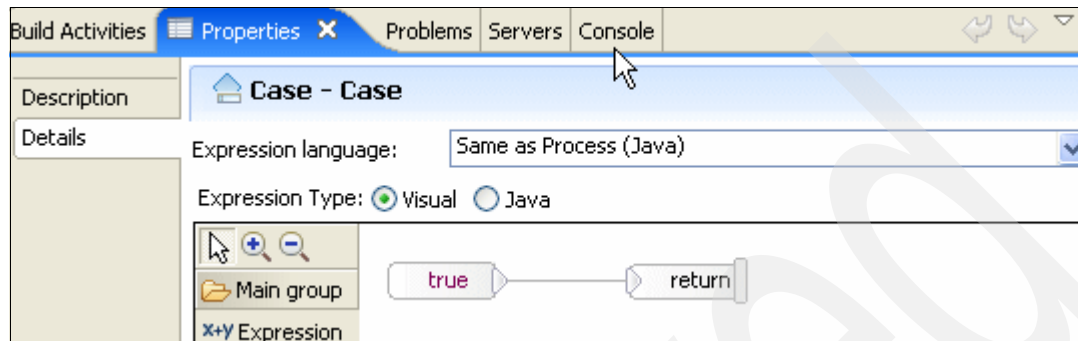

Figure 3-26 Case element's expression language
2. In the Properties view of the Case element, set the expression language to Same as Process (Java). Set the Expression type to Visual, which allows you to use the visual snippet editor to build the expression logic. See Figure 3-26.